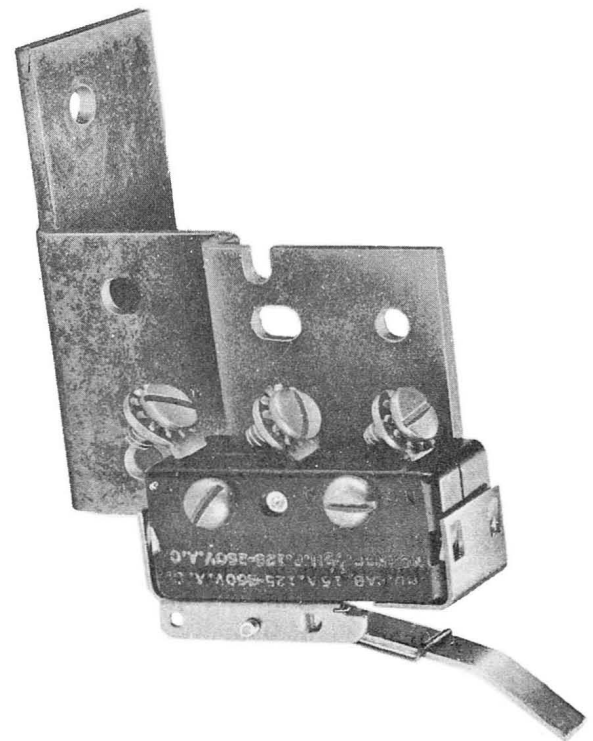

Fig. 11 — 1A Alarm Switch
4.03 A 1A switch kit assembly is available for installation in the 1A1 coin telephone. (See Fig. 11.) The 1A switch kit consists of two micro-switches equipped with brackets, actuators and screws. The P-25E056 switch is designed to mount over the vault. The actuator of this switch ex-